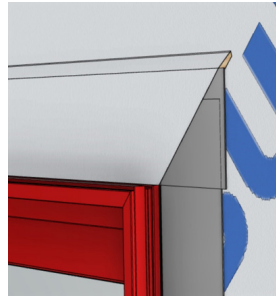

Fig F3
- Fold the WRB flap back to place covering the head flashing tape (Fig. F3).